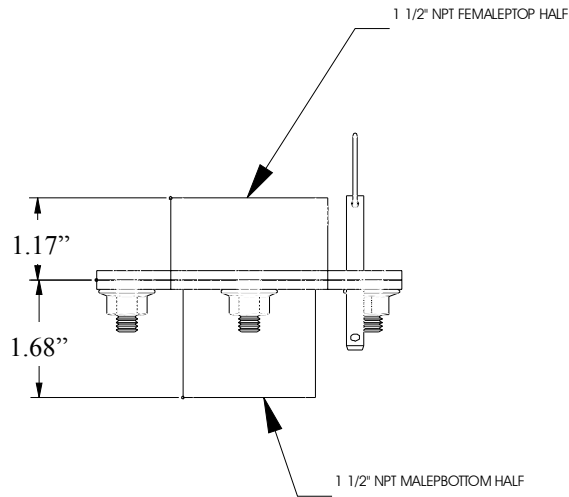

Figure 3
10. Insert the 1/4" diameter by 2 1/4" long safety pin in one of the 1/4" holes (see Figure 3).